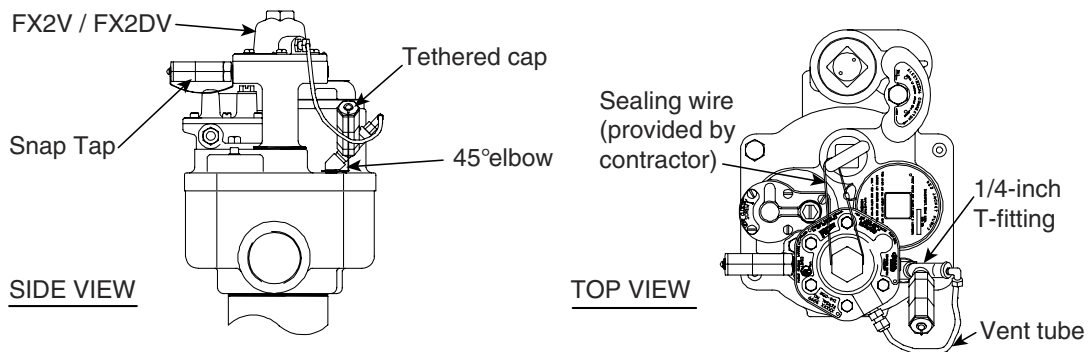

Figure 4. Installing FXV in the Standard pump
11. The top cover on the Red Jacket leak detector is designed to accommodate a sealing wire which can be used to discourage tampering of the unauthorized removal of leak detector. (see Figure 4).